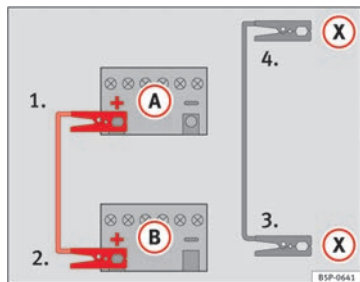

Fig. 215 Diagram of connections for vehicles with Start Stop system
- **For vehicles with Start-Stop system:** Connect one end of the *black* jump lead (X) to a suitable ground terminal, a solid piece of metal in the engine block, or to the engine block ⇒ Fig. 215.
5. Connect the other end of the *black* jump lead (X) to a solid metal component bolted to the engine block or to the engine block itself of the vehicle with the flat battery. However, connect it to a point as far as possible from the battery (A).